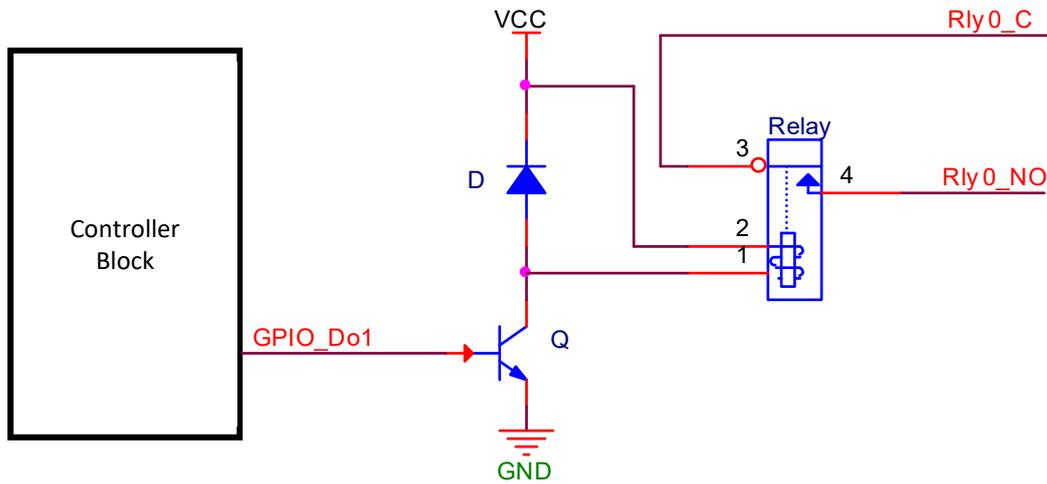

Figure 4.8 - Schematic Diagram of Relay Circuit
Figure 4.8 shows an example of relay circuit inside IO5202. The Controller Block inside the IO5202 has GPIO_Do1 connected to a transistor (Q) base such that it can control a Relay inside IO5202. When the transistor Q is turned on, the relay circuit will be closed or connect the pin 3 (Rly0_C) of the Relay to pin 4 (Rly0_NO).